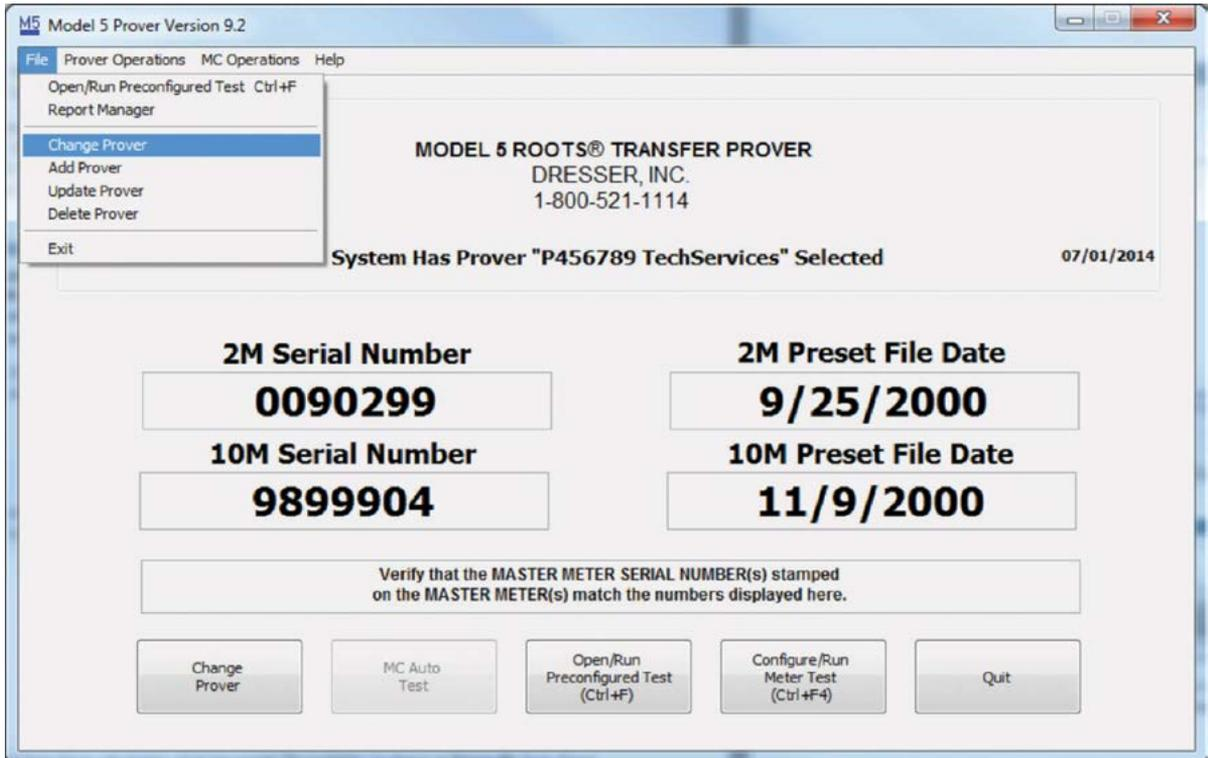

Figure 73: File > Change Provers
1. On the upper left-hand corner of the Prover main screen, Select "File" and "Change Prover" as shown in **Figure 73**.